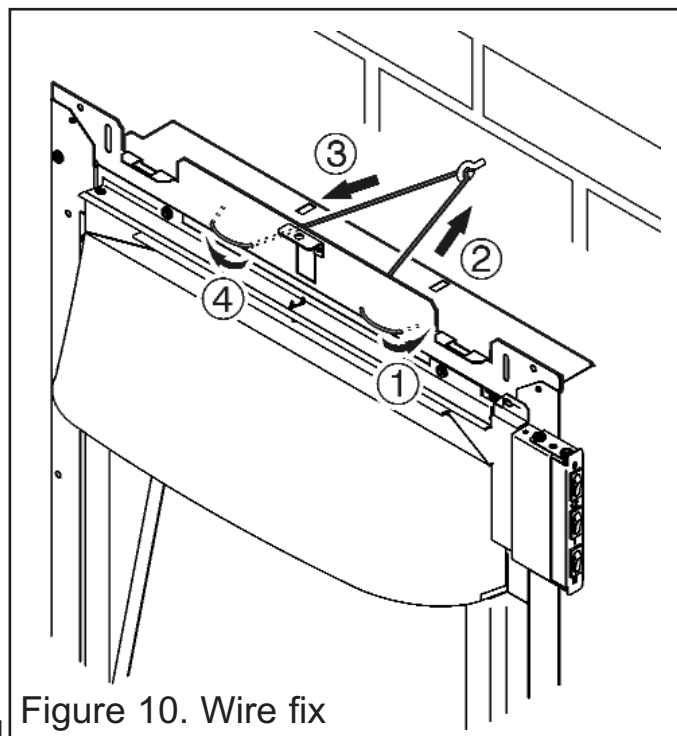

Figure 10. Wire fix
7. At the top of the heater there are four small holes, two each side of the heater. From the front of the heater, thread about 50mm of the wire into the outside small hole on the right side of the heater (See point 1 - figure 10).
8. Thread the other end of the wire through the remaining small hole to the left. Continue to push the wire through this hole until there is only a small loop of wire at the front of the heater (See point 2 - figure 10).
9. At the back of the heater there will be a long piece and a short piece of wire coming through the two holes. Hold the short piece and give the long piece a gentle tug. This will secure the wire. Take the long piece and thread this through the screw eye in the back of the fireplace opening (See figure 10).
10. From the back of the heater thread the long piece of wire through the inner small hole on the left hand side of the heater (See figure 10).
11. Locate the heater in the fireplace opening, then from the front of the heater, gently pull the wire on the right hand side to gather up the excess until the heater is secure. Thread the wire through the remaining small hole to lock the wire and heater in place (See point 4 - figure 10).